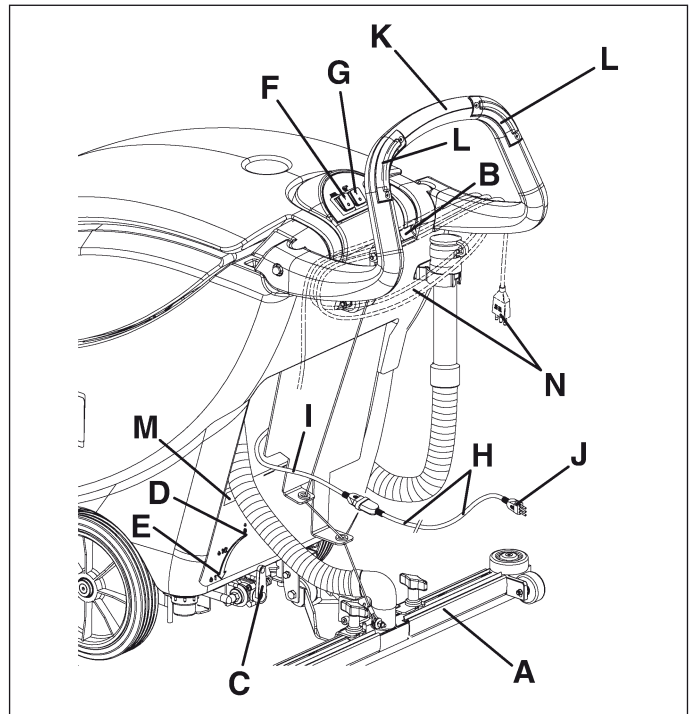

Figure 8
Connect the power supply cable (I) to the extension (H, Fig. 8) supplied. Connect the extension plug (J) to the electrical mains.
Before connecting the machine to the electrical mains, make sure that the frequency and voltage shown in the serial number plate/technical data (M, Fig. 8) match the mains voltage.
3. Lower the squeegee (A, Fig. 8) by pushing the lever (B) downwards.
4. Turn the solution flow control lever (C, Fig. 8) to one of the following positions, according to the type of cleaning to be carried out:
- **ECO system:** When the lever (C, Fig. 8) is in the “ECO” position (D), the machine works in a special condition of programmed water “economy” usage; as the water flow is set and constant, the machine can work with a cleaning time of 70-80 minutes [0.08 gal/min (0.3 liters/min)].
- **Variable system:** When the lever is turned to the left (variable flow), it is possible to increase the capacity up to 0.26 gal/min (1 liter/min) (E, Fig. 8).
5. Turn the switches (F and G, Fig. 8) to the “I” position.
6. While keeping both hands on the handlebar (K, Fig. 8), start the machine by pressing one or both the activation switches (L).
7. Release the switches (L, Fig. 8).
8. Turn the switches (F and G, Fig. 8) to the “0” position.
9. Disconnect the power supply cable plug (J) from the electrical mains. If necessary, roll up the power supply cable (H, Fig. 8) on the handlebar into position (N).
10. Lift the squeegee by pushing the lever (B, Fig. 8) completely upwards.